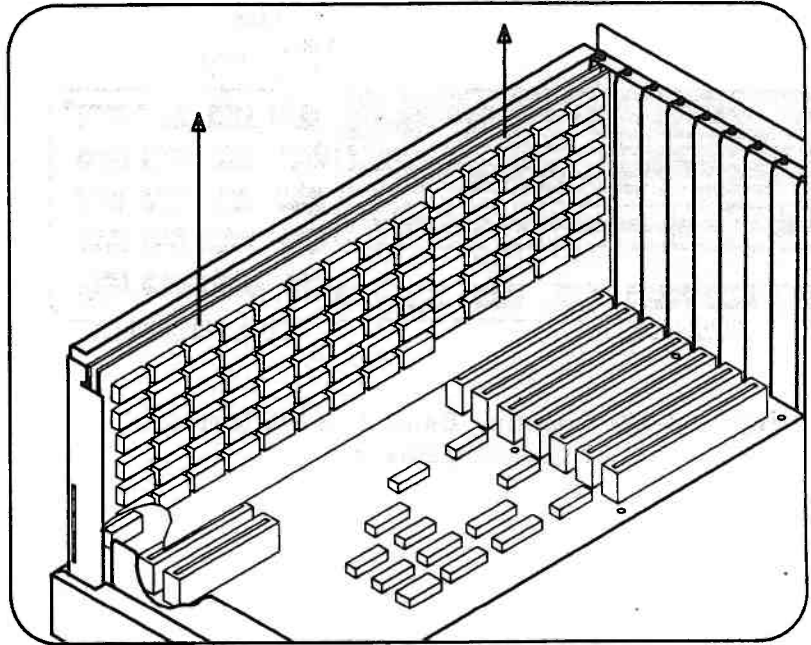

Figure 3-16. Removal of the Memory Expansion Board
14. Remove the Memory Expansion Board from the Bus Converter (Figure 3-16).